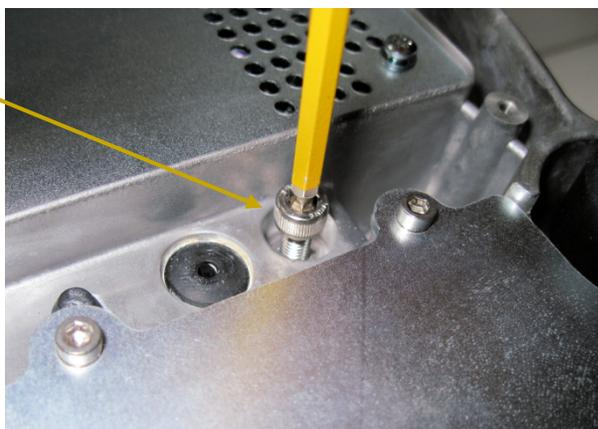

Figure 86 Instrument inlet purge port securing bolt
5. Locate the instrument purge inlet port shown in Figure 86.
6. Using an M5 hexagonal key, unscrew and remove the bolt in the inlet port (Figure 86). Retain the bolt for future use.